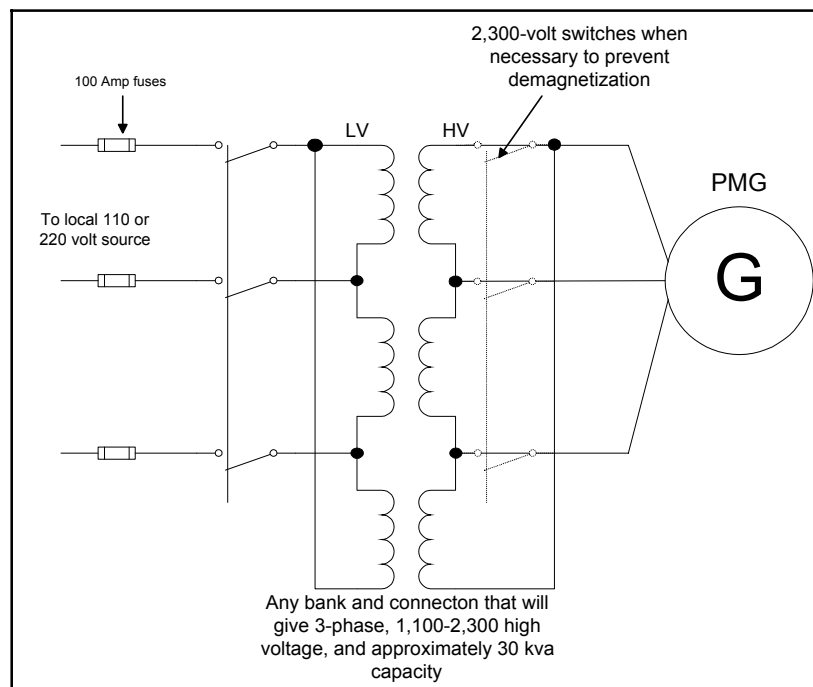

Figure 9.—Schematic for remagnetizing PMG.
- (c) Disconnect the three PMG stator leads from the terminal block and connect them directly to the 2,300 volt leads from the transformers. Connect a three-pole circuit breaker to the low side leads of the transformer (figure 9). Verify all connections are electrically sound, and observe safety precautions.